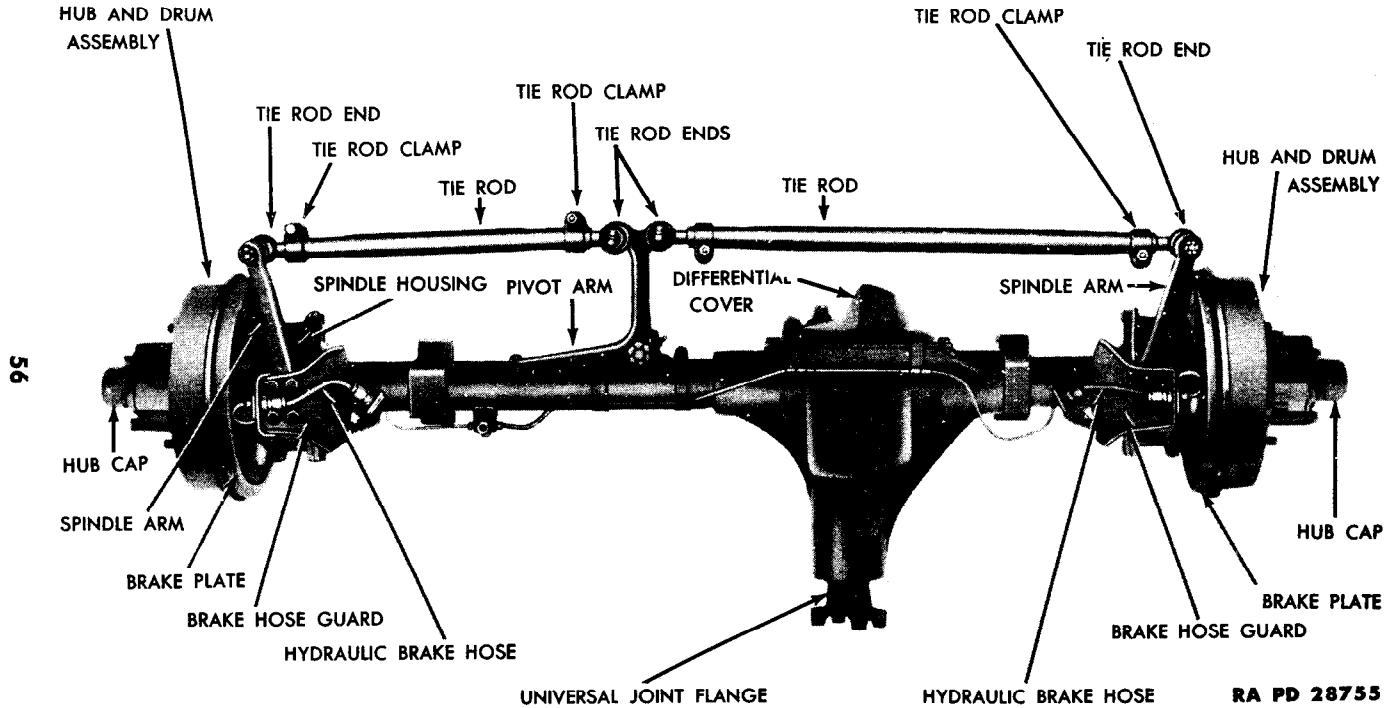

Figure 46 — Front Axle Assembly
d. **Remove Spindle Housing** (fig. 46). Remove the castellated nut that secures the tie rod ends to the two spindle arms. Remove the two castellated nuts that secure the two tie rod ends to the steering pivot arm and remove the two tie rods. Remove the hydraulic brake hose clamp from the hydraulic brake line at the brake hose guard. Remove the four nuts that secure the brake hose guard and spindle arm to the spindle housing. Remove the spindle arm and